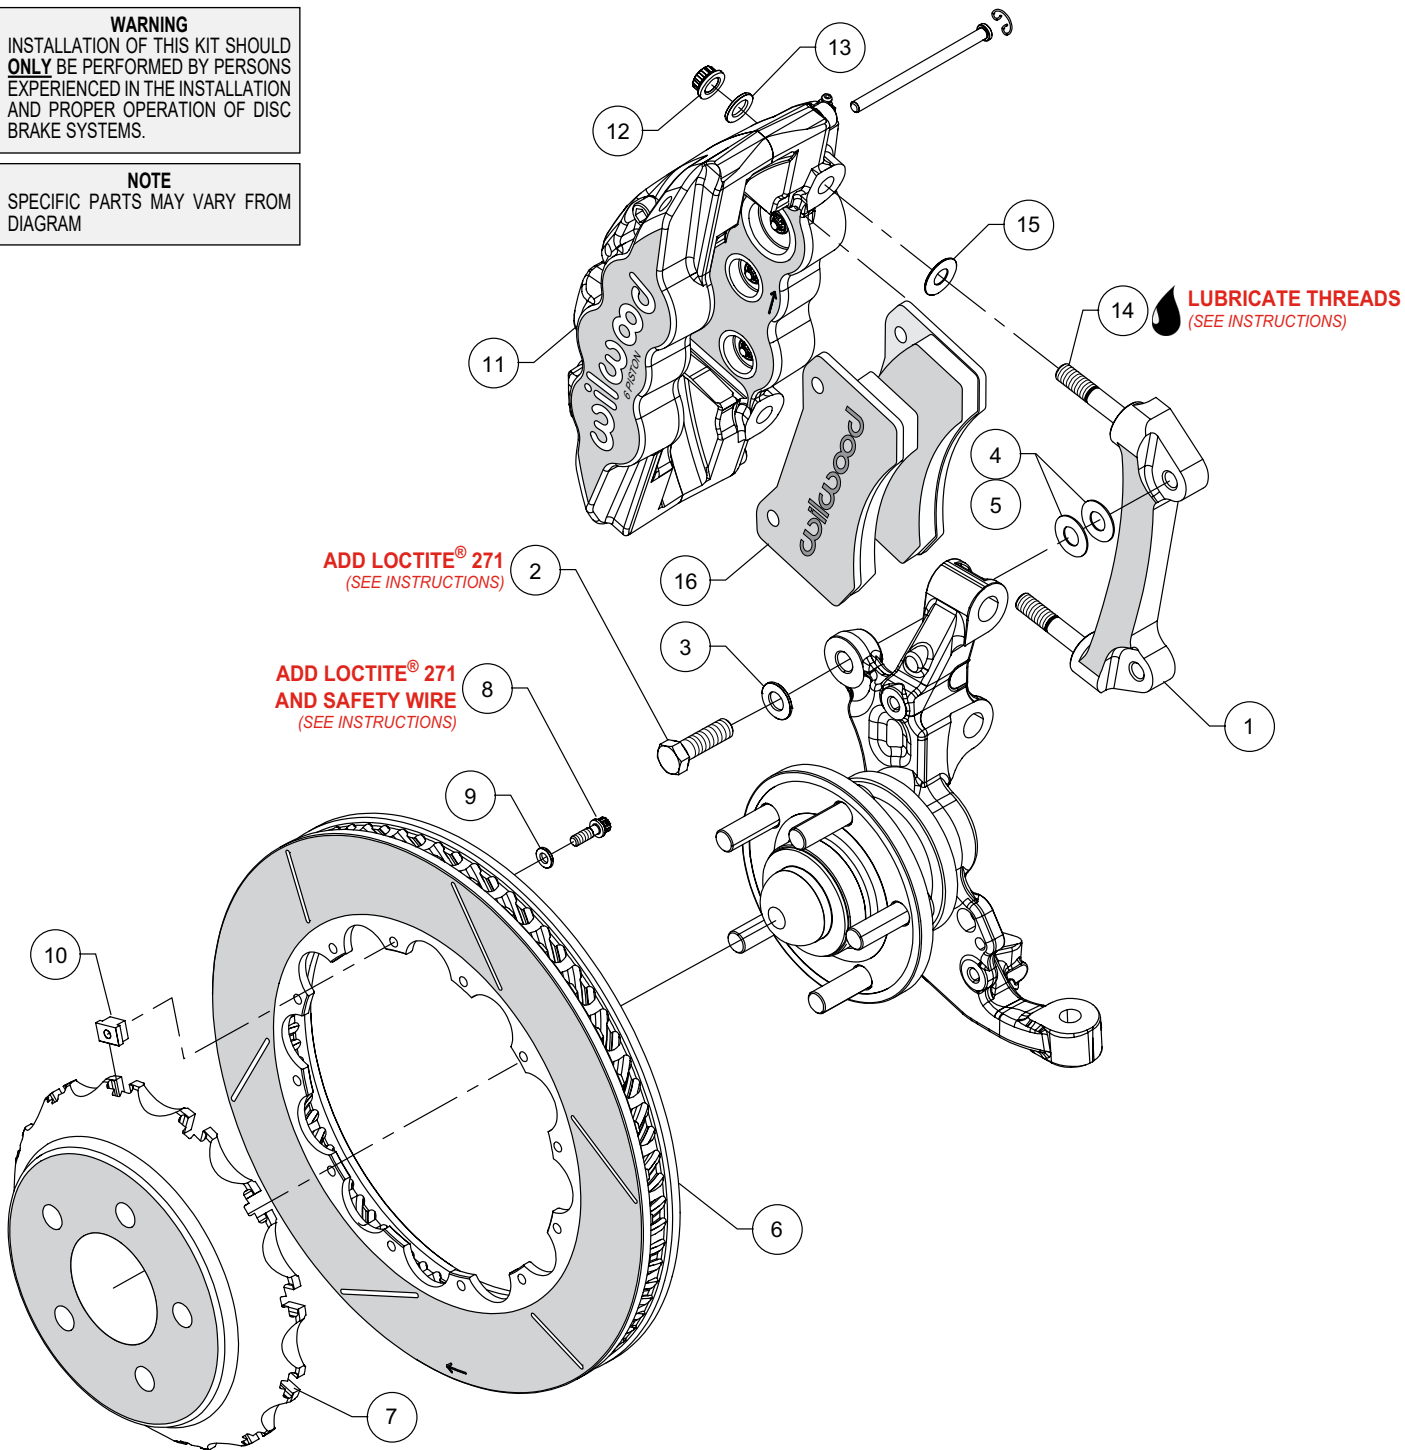
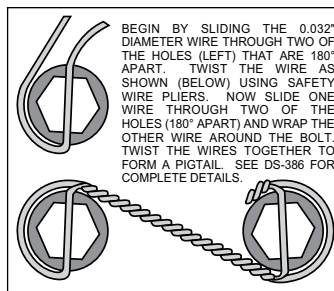

Figure 1. Typical Installation Configuration
Figure 3. Safety Wire Diagram
**NOTE:** Numbers in parenthesis refer to the parts list and Figure 1 on the preceding pages.
•The caliper mount bracket (1) should initially be installed with clean, dry threads on the mounting bolts. Orient the bracket, as shown in Figure 1 and Photo 1, and install using bolts (2) and washers (3). Initially place two .033" thick shims (4) on each bolt between the bracket and upright, Figure 1. Temporarily tighten the mounting bolts. **NOTE:** The bracket must fit squarely against the mount bosses on the upright. Inspect for interference from casting irregularities, machining ridges, burrs, etc. Later, after the caliper alignment has been checked, the mount bolts will be secured using red *Loctite*® 271.
•Orient the rotor (6) and the hat (7) as shown in Figure 1 and Photo 2. Attach rotor to hat using bolts (8), washers (9), and
t-nuts (10), Figure 1. Follow additional instructions included with the bolt kit. Using a criss-cross pattern, apply red *Loctite*® 271 to the threads, and torque to 120 **in-lbs**. Safety wire bolts using standard 0.032 inch diameter stainless steel safety wire as shown in Figure 3. Refer to Wilwood's data sheet DS-386 (available at [www.wilwood.com/Pdf/DataSheets/ds386.pdf](http://www.wilwood.com/Pdf/DataSheets/ds386.pdf)) for complete safety wire installation instructions.
•**NOTE:** *This kit contains distinct right and left hand calipers that must be mounted in a specific direction, as described below.* Lubricate the caliper mounting studs (14) with lightweight oil. Initially place one .030" thick shim (15) on each stud between the caliper and the bracket, as shown in Figure 1 and Photo 4. Mount the caliper (11) onto the bracket (1) using lock nuts (12) and washers (13), Figure 1. Temporarily tighten the lock nuts. Ensure that the caliper is mounted so the largest pistons are at the rotor exit end of the caliper, in relation to the direction of the rotor. View the rotor through the top opening of the caliper. The rotor should be centered in the caliper, Photo 5. If not, adjust by adding or subtracting shims (4 and/or 5) between the bracket and the upright. Always use the same amount of shims on each of the two mounting bolts. Once the caliper alignment is correct, remove the bracket mounting bolts one at a time, apply red *Loctite*® 271 to the threads, and torque to 60 ft-lbs.
•Remove the two pad retaining pins from the caliper (11) by carefully popping out the pin retaining clips and sliding out the pins. Insert the brake pads (16) into the caliper from the bottom, Figure 1 and Photo 6. With the friction material facing the rotor, secure the brake pads in place with the pad retaining pins and clips, Photo 7. Reinstall the caliper onto the caliper mounting bracket and temporarily tighten the lock nuts. Check that the top of the brake pad is flush with the outside diameter of the rotor, Photo 8. If not, adjust by adding or subtracting shims (15) between the caliper and the bracket. After the caliper pad height is set, torque the caliper lock nuts (12) to 47 ft-lb.